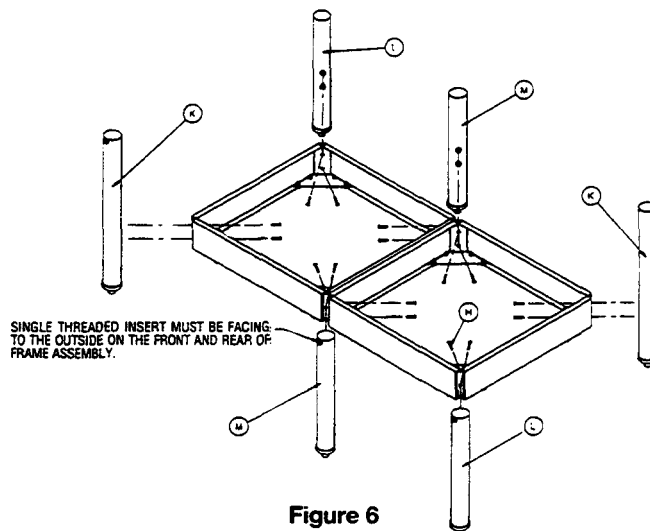

Figure 6
4. Attach left leg assembly item "K," as shown in Figure 6, right leg assembly item "L," and center leg assembly item "M" to frame using $\frac{1}{2}$ -20 x $1\frac{1}{2}$ hex bolts item "H" from inside of frame. Repeat Step 4 for back side of stand.